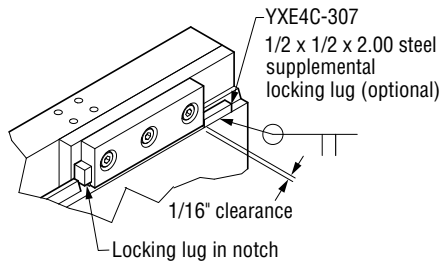

Figure 4-2, Locking Lug
7. Weld on the supplemental locking lug that is supplied with the attachment, (two pieces of 1/2" x 1/2" x 2.00" steel included with the attachment) with either E-6011 or E-6013 welding rod, or equivalent, on each side of the truck carriage. (Figure 4-2)